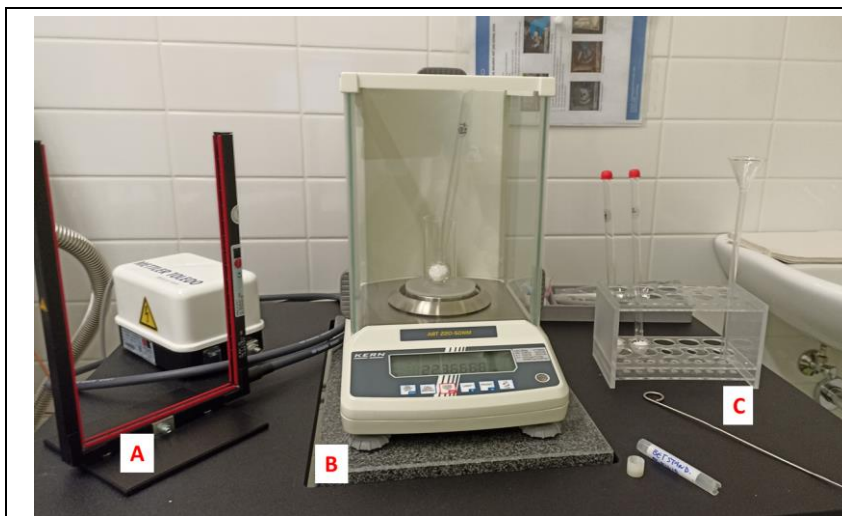

Fig. 1: Antistatic kit (A), Microbalance (B), Holder with vials, and cylinder (C).
- Weight the vial** with the orange cap and a sample. Use the Antistatic kit (Fig. 1) for discharging by passing through the ionizer for an accurate value (switch on the device, throw the 'bridge' with the vial full of powder). **Weight.** Write down the stable value (vial with a cap and a sample).